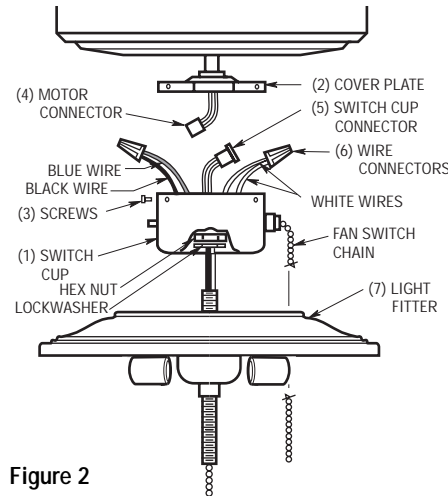

Figure 2
6. Insert the black and white wires from the light fitter (7) through the center hole in the switch cup (Figure 2) and thread the switch cup onto the light fitter. Hold wires taut while installing switch cup to prevent the wires from twisting. Tighten the fitter until the fan switch chain aligns with the hole in the fitter.
7. Insert the black and white wires through the lockwasher and hex nut (supplied), firmly tighten the hex nut to secure the light kit fitter to the switch cup. Connect the white wire from the switch cup to the white wire of the light fitter (Figure 2). Connect the blue wire from the switch cup to the black wire of the light fitter. Use listed wire connectors (previously removed in step 5) to make connections (Figures 2 and 3).
8. Carefully tuck all wires and splices into the switch cup (1). (Figure 2.)
9. Connect the motor connector (4) to the switch cup connector (5).
10. Position the cup/light fitter (1)(7) on the cover plate (2) and install the three screws (3) that were previously removed in step 2 and tighten securely.